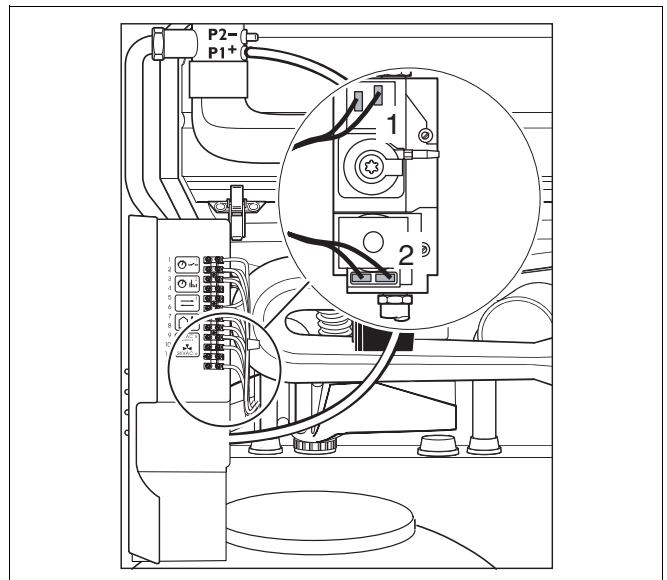

fig. 78 Checking the wiring connections on the gas-valve assembly (HONEYWELL assembly illustrated to provide example)
Blue plug-in lead: fig. 78, item 1 ;
White plug-in lead: fig. 78, item 2.